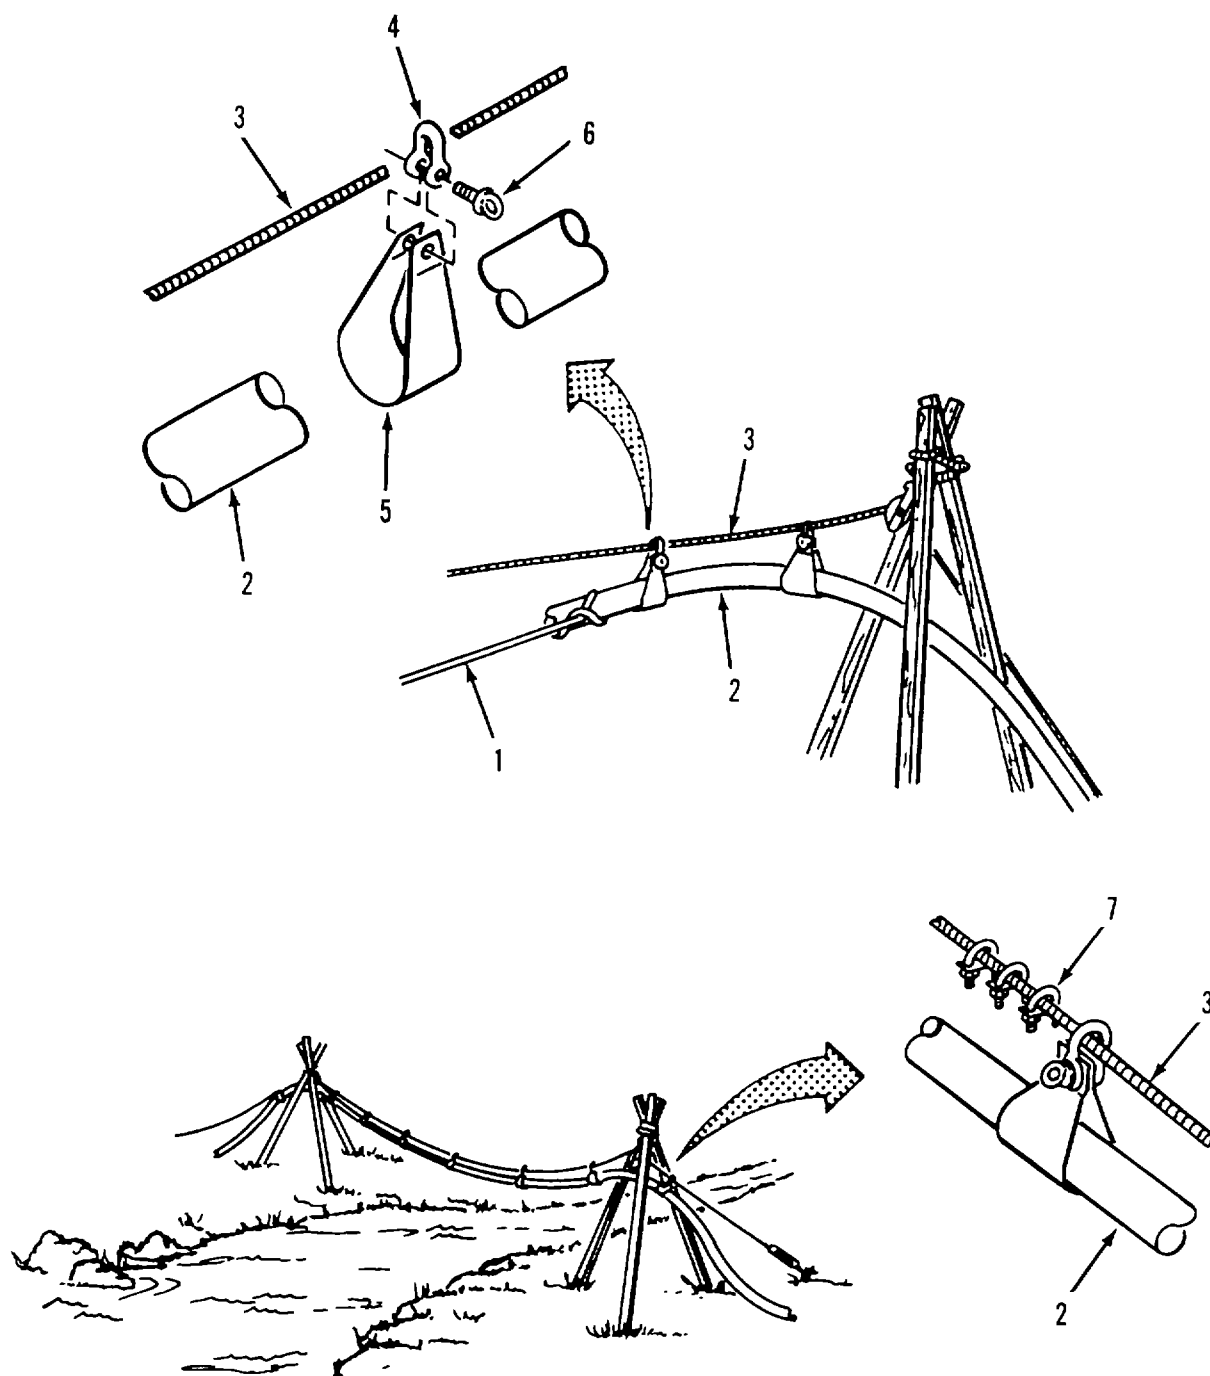

Figure 2-26. Suspending Hoseline
*Suspending Hoseline. Refer to figure 2-26.*
- (12) Tie manila rope (1), supplied in suspension kit, to leading end of hose (2) Make sure rope is long enough to cross obstacle.
- (13) Hang shackle (4) on wire rope (3).
- (14) Position saddle (5) around hose (2).
- (15) Lift hose (2) and attached saddle (5) up to shackle (4) Secure saddle to shackle with bolt (6).